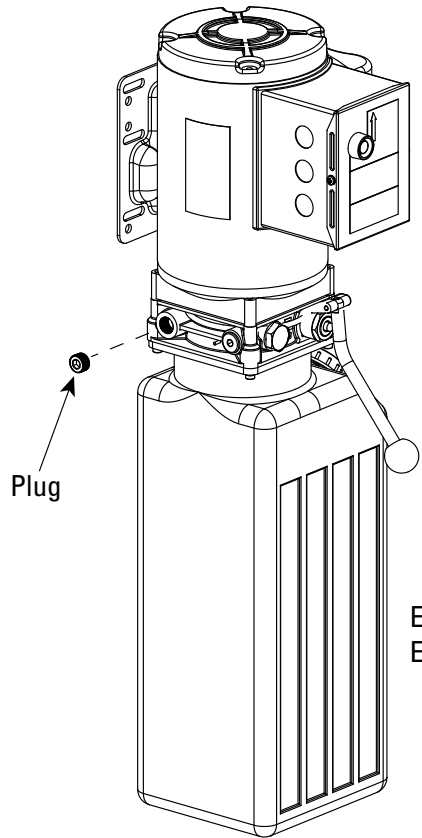

Fig. 1
A.) Remove plug from power unit using hex wrench, Fig. 1 below.